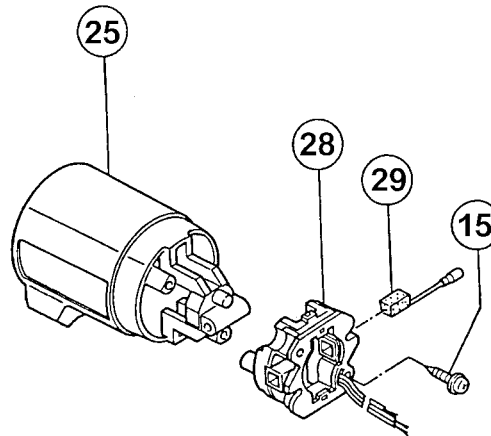

Fig. 12
(11) Removal of Wiring Block (C) [28] (Fig. 12)